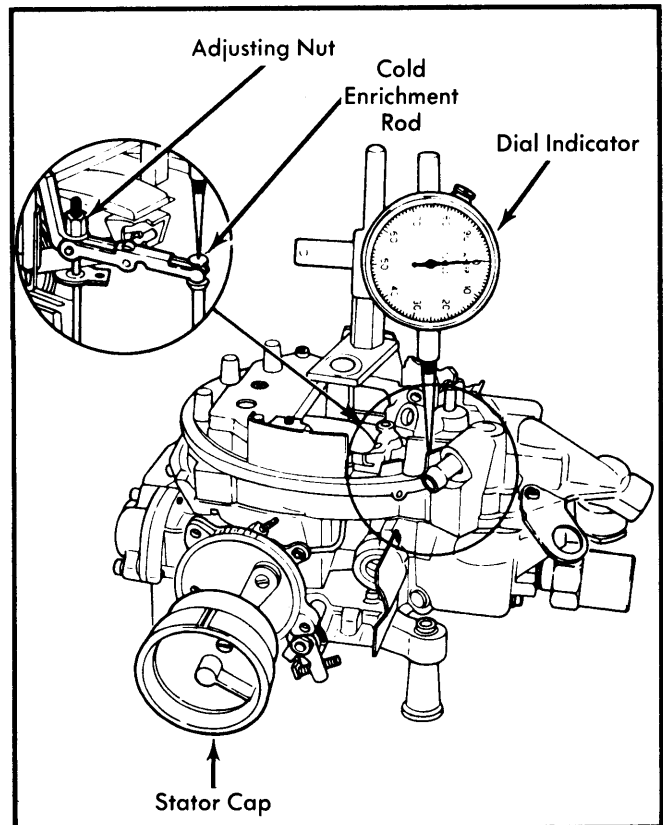

Fig. 4 Adjusting Cold Enrichment Metering Rod
- 1) Remove choke cover. Install stator cap T77L-9848-A7 (or equivalent) as a weight to seat cold enrichment rod. See Fig. 4.